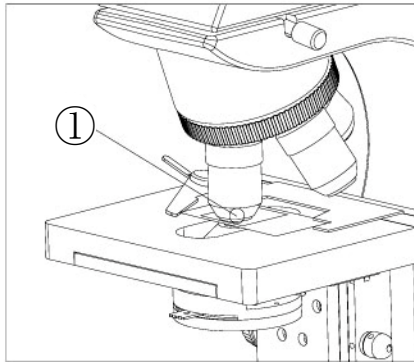

Fig. 12
Place one drop of immersion oil on the lighted area of the specimen slide ① (Fig 12). Dust or air bubbles in the oil can destroy the definition of the image. If the bubbles are trapped between the objective lens and the slide, clean off the oil and start again or try to eliminate the bubble by rotating the objective back and forth.